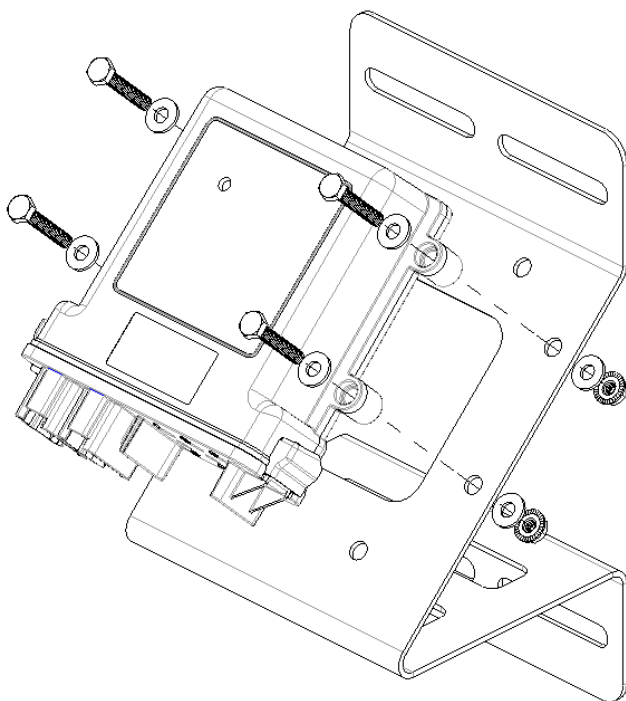

Figure 11: Installing the gateway on a tow-behind air cart
2. Secure the gateway to the mounting bracket using the provided screws (356060-000033), washers (352012-000002), and nuts (356060-000075) as shown in Figure 11.